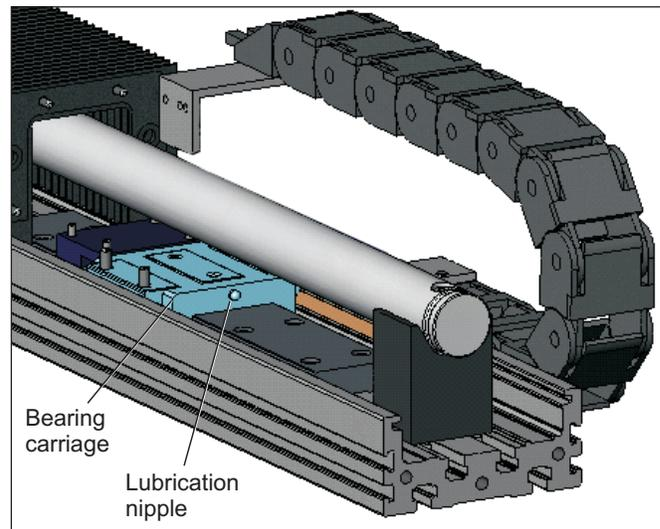

Figure 3.2
- The lubrication nipple can be seen in Figure 3.2 after the bellows have been removed. For clarity, the forcer has been removed.